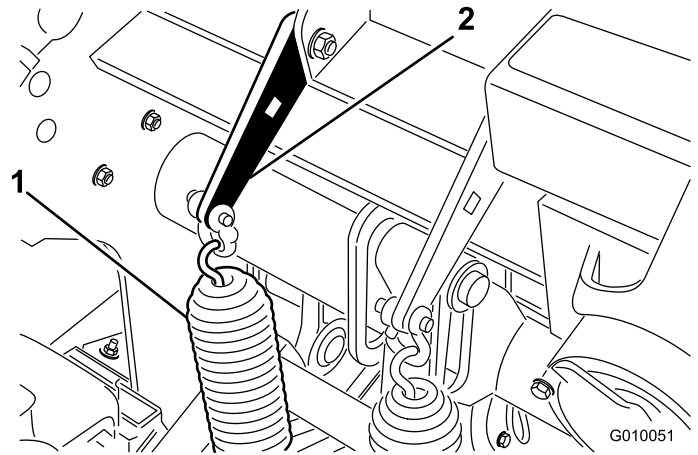

Figure 37
1. Loosen the carriage bolt nuts securing the spring brackets to the coring head (Figure 37). Do not remove them.